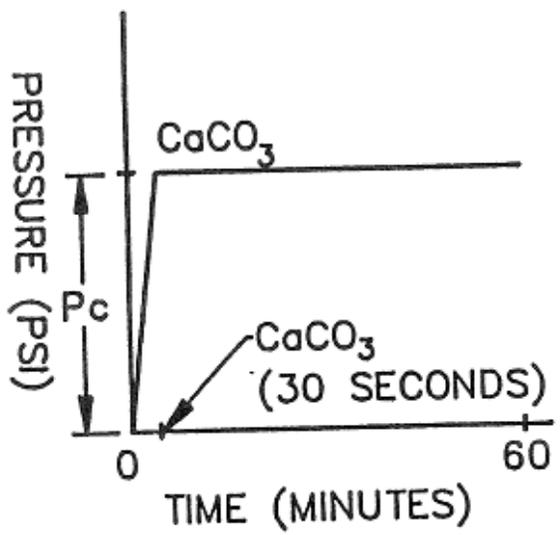
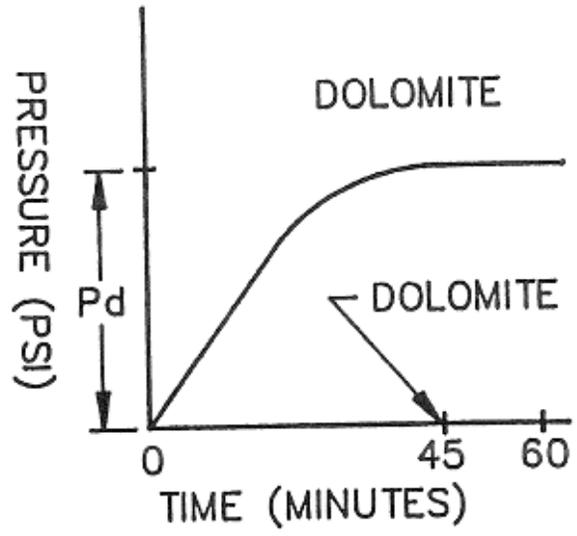
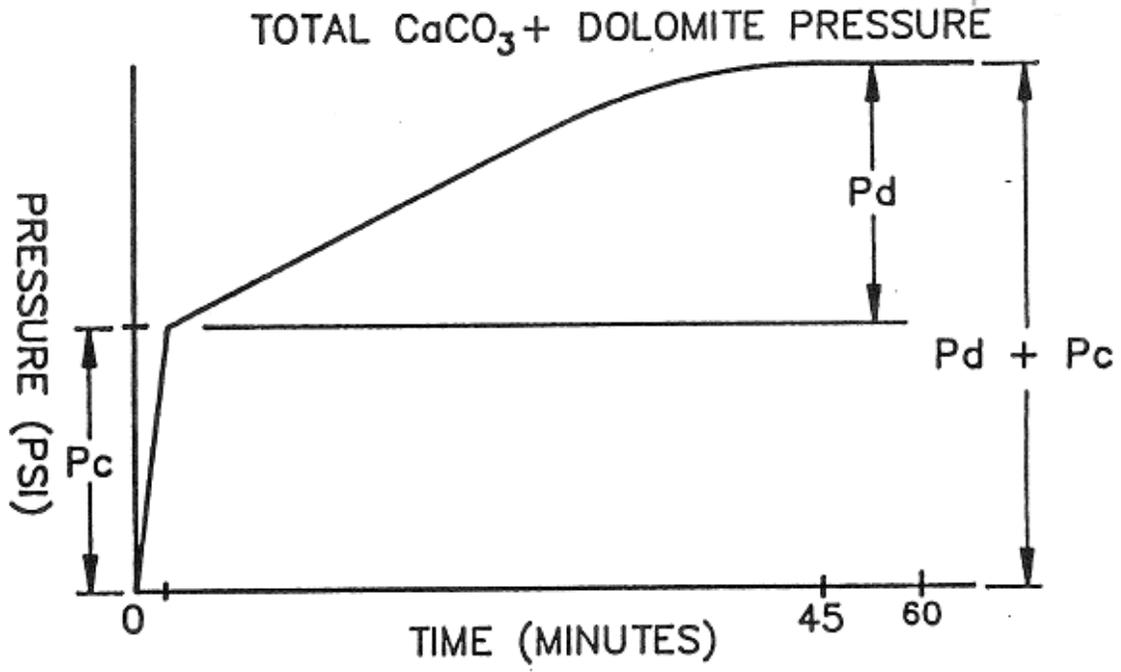

Fig. 1
Fig. 2
Fig. 3
- E. For interpretation of the pressure readings. Refer to Fig. 1, 2, and 3. These are representative of pressure versus time graphs as they would appear on a Pressure Recorder Chart. Fig. 1 is representative of the CaCO_3 only. Fig. 2 is representative of dolomite only. Fig. 3 is representative of combined CaCO_3 and dolomite.
- E. For interpretation of the pressure readings. Refer to Fig. 1, 2, and 3. These are representative of pressure versus time graphs as they would appear on a Pressure Recorder Chart. Fig. 1 is representative of the CaCO₃ only. Fig. 2 is representative of dolomite only. Fig. 3 is representative of combined CaCO₃ and dolomite.